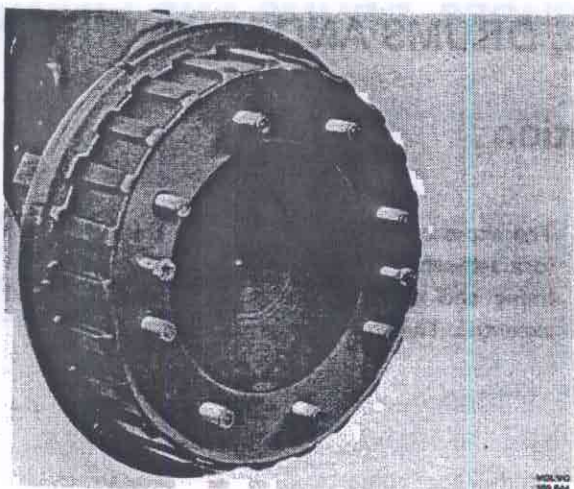

Fig. 51-4. Puller bolts in brake drum
4. Pull off the brake drum. If necessary use two puller bolts 3/8-24 UNF, Fig. 51-4.
4. Pull off the brake drum. If necessary use two puller bolts 3/8–24 UNF, see Fig. 51-4.